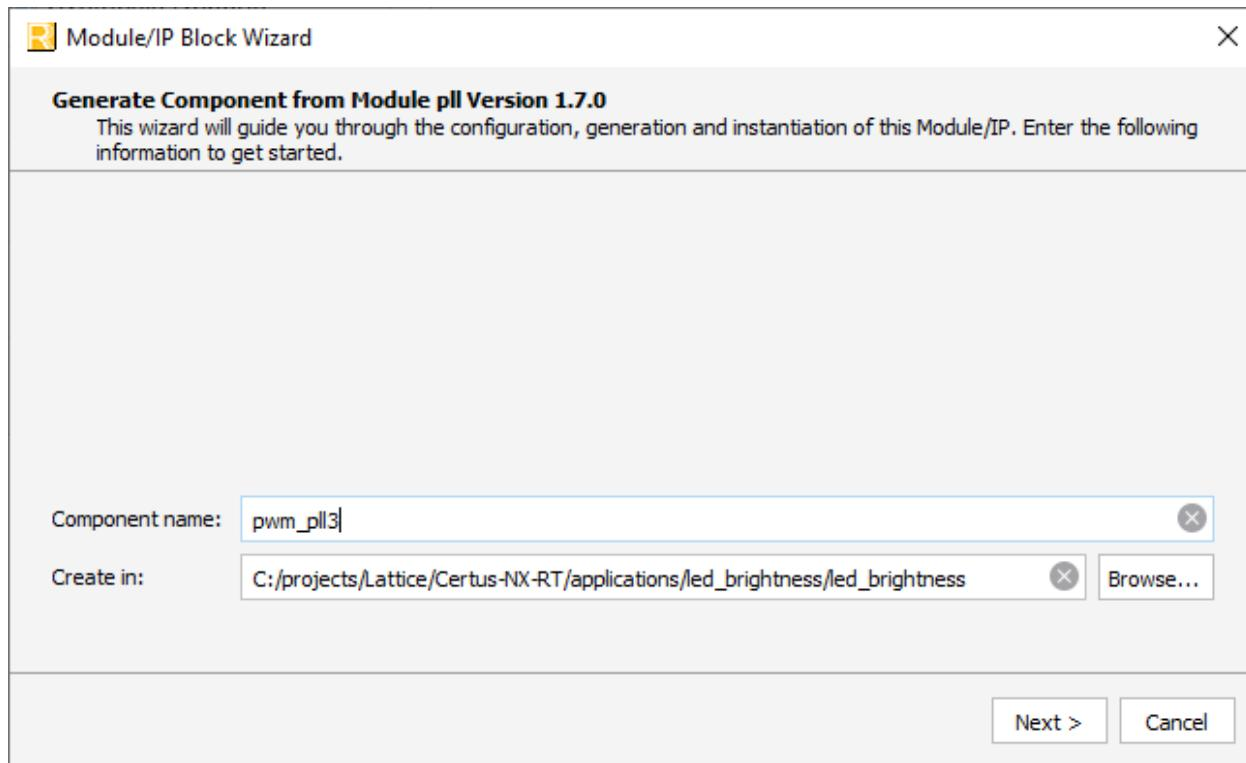
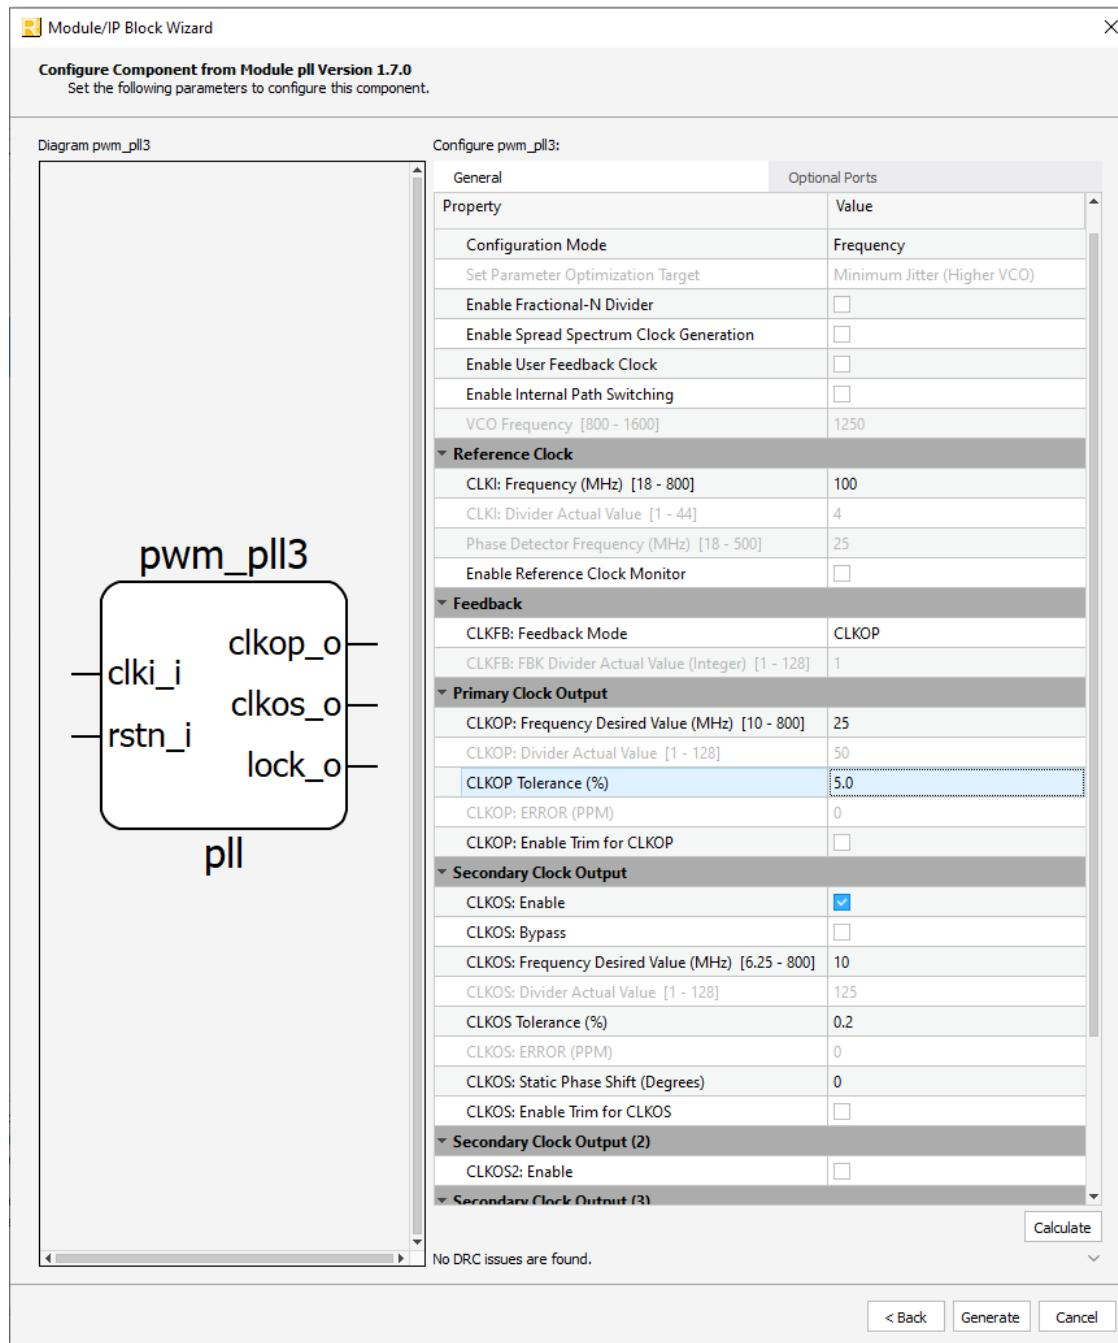

Figure 8: Opening the IP Catalog
Figure 9: Adding a PLL from the IP Catalog
8. From the **IP Catalog Architecture Modules**, add a **PLL** module with the options shown below and name it **pwm_pll3**, see **Figure 8** and **Figure 9**.